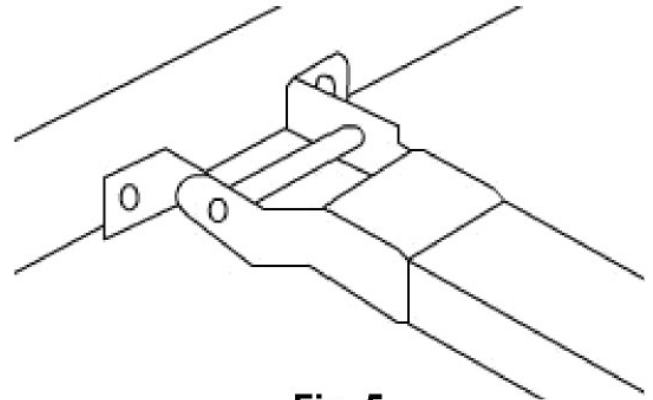
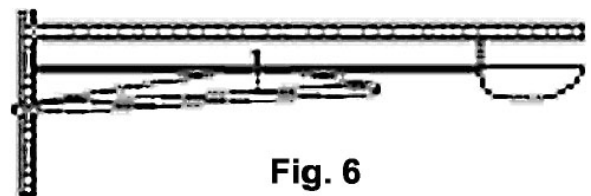

Fig. 5
Fig. 6
- 1.3) Fix the S600-II opener to the lintel or to the ceiling with the correct fixing (Fig.5), maintaining a minimum gap of 30mm from the top panel's maximum height (Fig. 6). Check measurements before drilling.